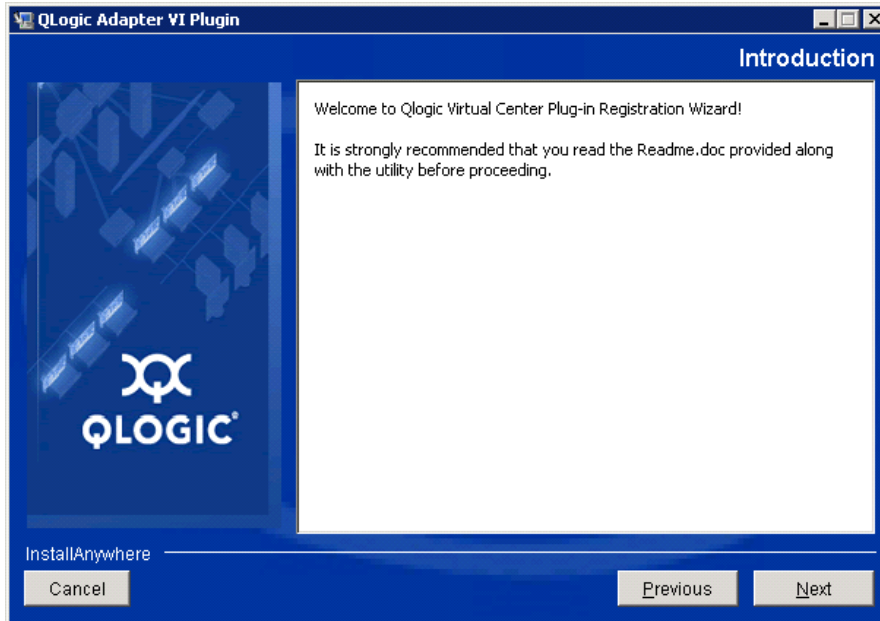

Figure 2-10. QLogic Adapter VI Plug-in Wizard: Introduction
3. In the QLogic Adapter VI Plug-in wizard's Introduction window (see Figure 2-10), click **Next**.